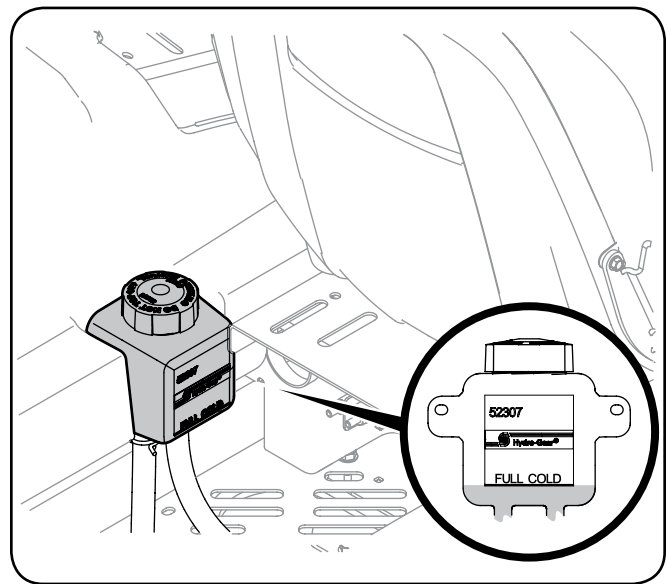

Figure 30
1. Pivot the operator's seat forward and clean the reservoir cap and the area around the cap to prevent debris from contaminating the transmission oil. See Figure 30.
2. Turn the reservoir cap counterclockwise to re-move, then check the oil level in the reservoir. Oil should be visible at the bottom of the cup, but the oil level must NOT be above the "FULL COLD" line. See Figure 30. **DO NOT FILL THE RESERVOIR.**